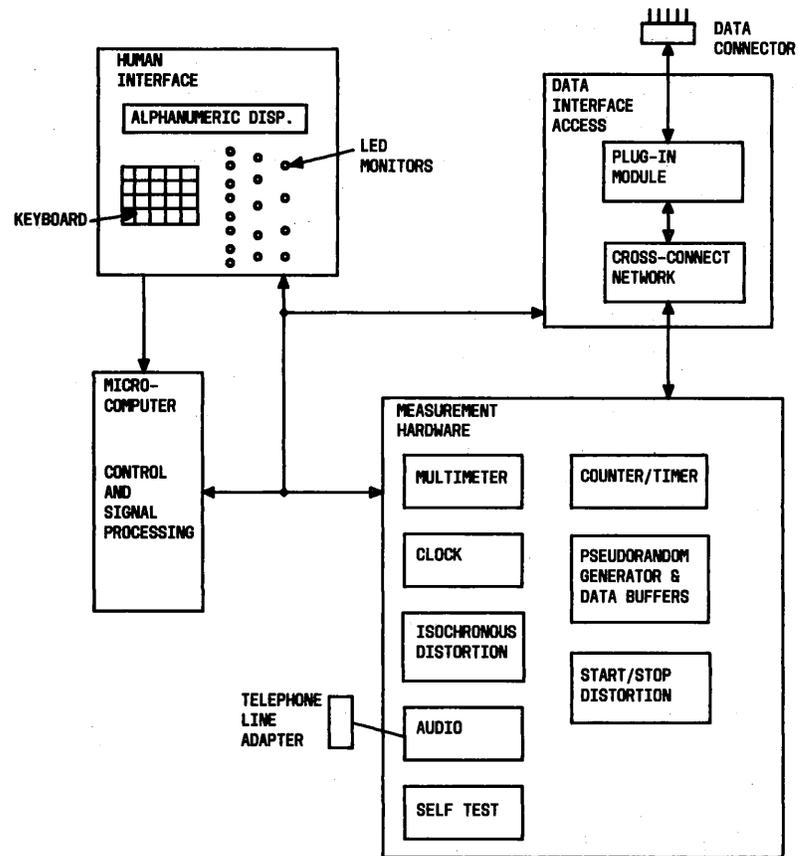

Fig. 9—DTS Functional Block Diagram
**3.01** This description is based on the DTS Functional Block Diagram, Fig. 9. Each of the four functional units will be discussed.